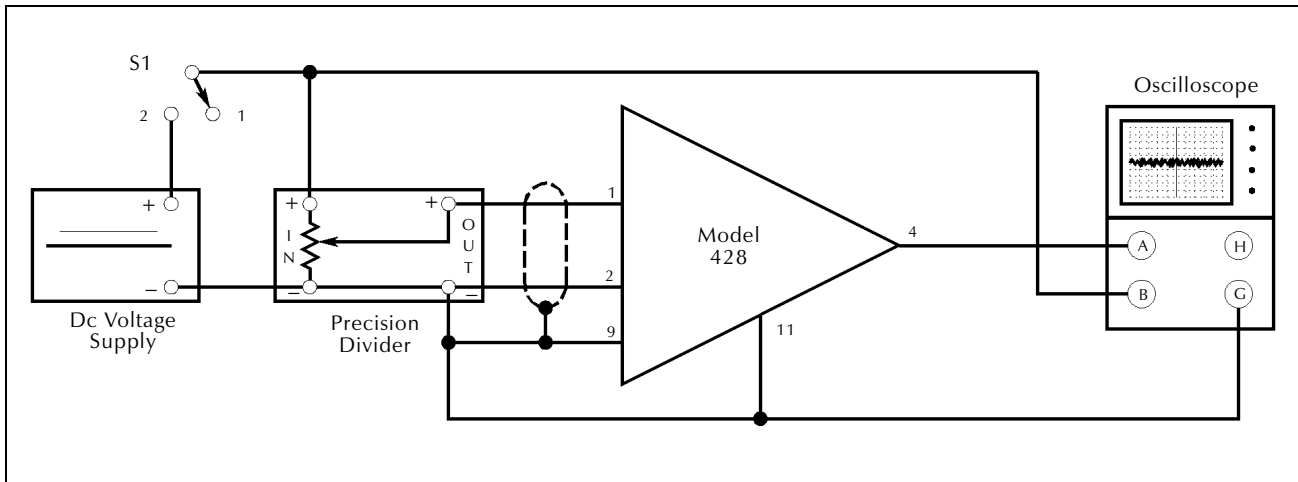

Figure 5-1
1. Connect the amplifier to be tested as shown in Figure 5-1.
1. Connect the amplifier to be tested as shown in Figure 5-1 or 5-2.